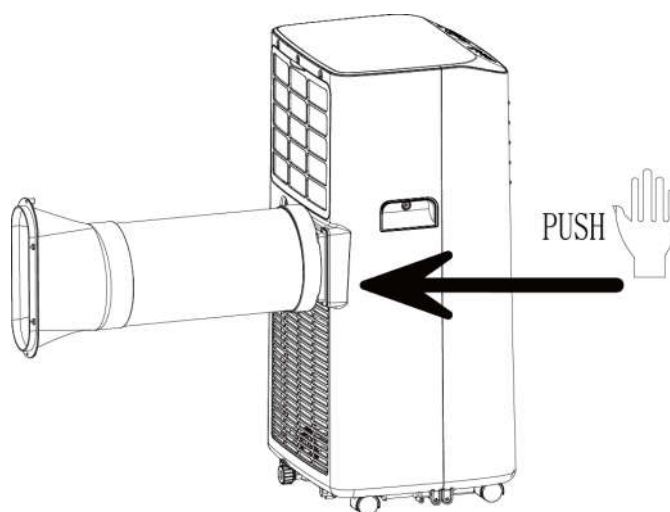

Figure 1
1.1 Install the heat pipe assembly (as shown in Fig.1)
2) insert the heat pipe assembly (the end of the exhaust joint) into the back panel vent slot (push to the left) and complete the assembly (as shown in figure 1).